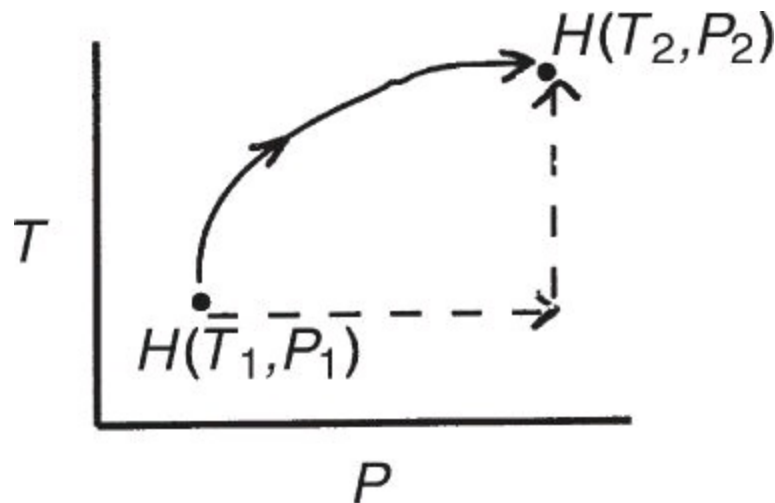

Figure SAT9.2.5P2
2. Will the enthalpy change be greater along the path shown by the solid line or the path shown by the dashed line in Figure SAT9.2.5P2?